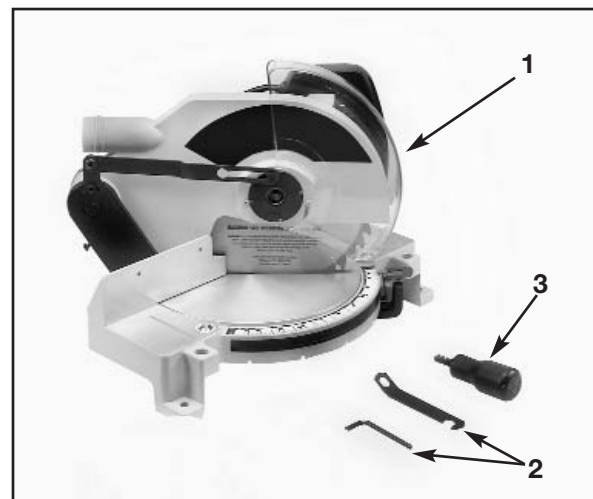

Fig. 1
1. Remove the miter saw and all loose items from the carton. Fig. 1 illustrates the machine and all loose items after they have been removed from the carton.